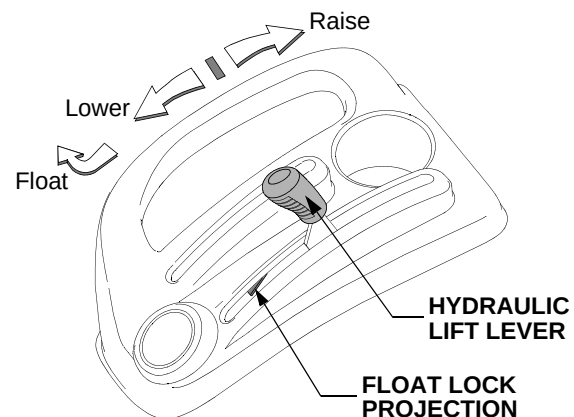

Figure 17
- Move the lift lever forward in the slot to lower the equipment to the desired height setting. Refer to Figure 17.